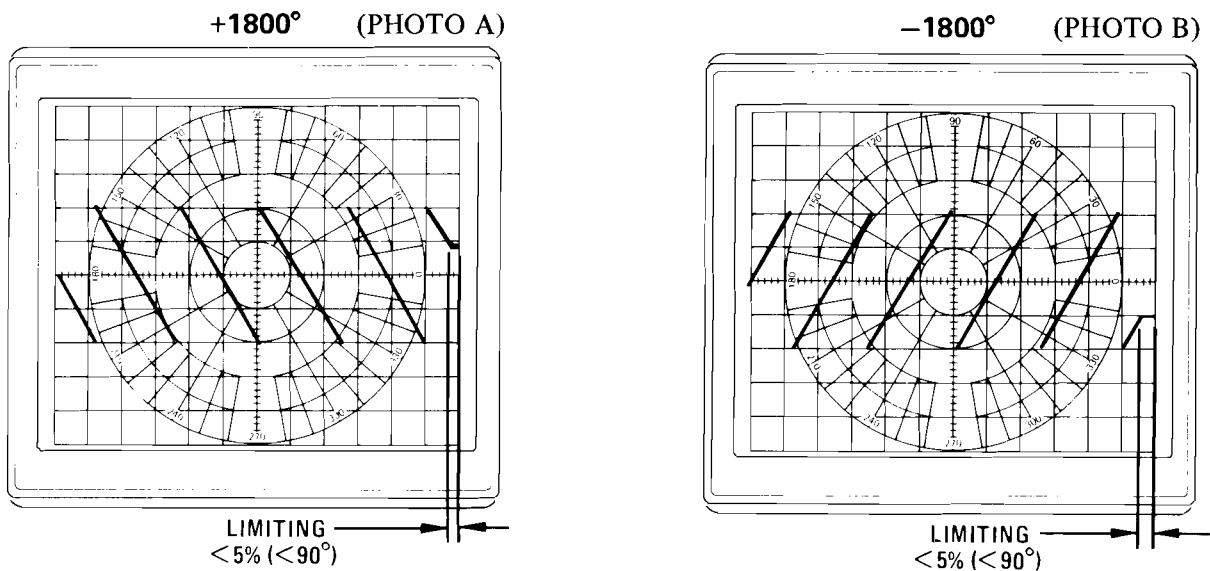

Figure A4-17. Phase Trace with Maximum Electrical Length Added
- o. With ELECTRICAL LENGTH offset pushbuttons, put in +1800 degrees of electrical length. (The electrical length readout displays +180.) Verify that five transitions are displayed and that the linear phase display limits over approximately the last 5% of the trace or 0.6 divisions. (See Figure A4-17, Photo A.)
- q. With ELECTRICAL LENGTH offset pushbuttons, put in -1800 degrees of electrical length. (The electrical length readout displays -180 .) Verify that five transitions are displayed and that the linear phase display limits over approximately the last 5% of the trace or 0.6 division. (See Figure A4-17, Photo B.)